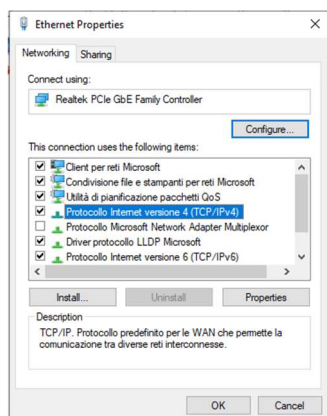
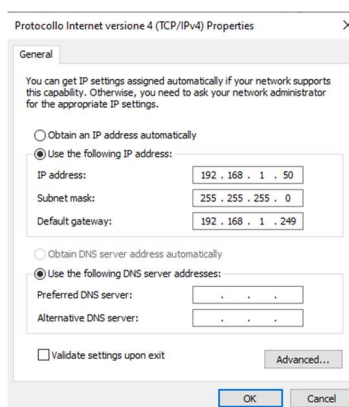

Fig. 6
Fig. 7
- From the Ethernet properties menu (Fig.6), select "Internet Protocol version 4 (TCP / IPv4)" and press the "Properties" button which will be enabled in the meantime. The screen in Fig. 7 will open.
13. Select “Network” from the Configurations menu to set the MDB-E network parameters in accordance with those of your Ethernet network. For example, if in the original screen of Fig.7 the IP address was 192.168.10.1, set MDB-E to 192.168.10.101 (Fig.9).